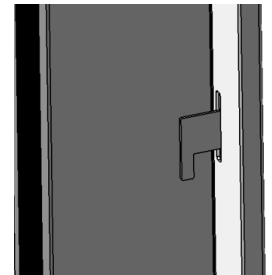

Fig. 25
25. a. Slide the left Side Trim into place by carefully guiding the Side Trim Attachment slots. Fig. 25 shows an inside view.